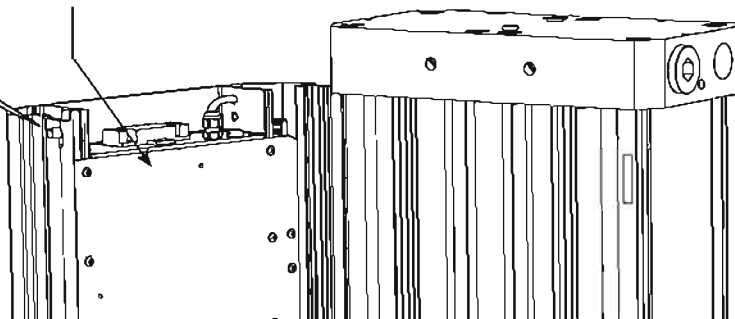

Figure 1.
2. Remove the 4x M5 screws to remove the top cover. (See Figure 1)